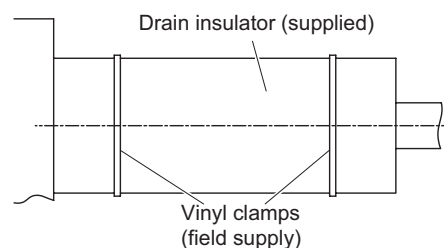

Fig. 2-169
- (2) After checking the drainage, wrap the supplied packing and drain pipe insulator around the pipe, then secure it with the clamps. (Fig. 2-169)